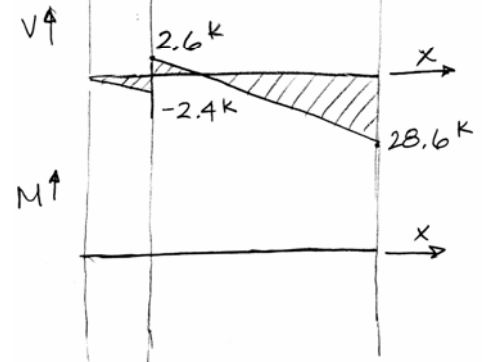

Figure 1b
- The completed bending moment diagram in Figure 1b, and M_{max} .